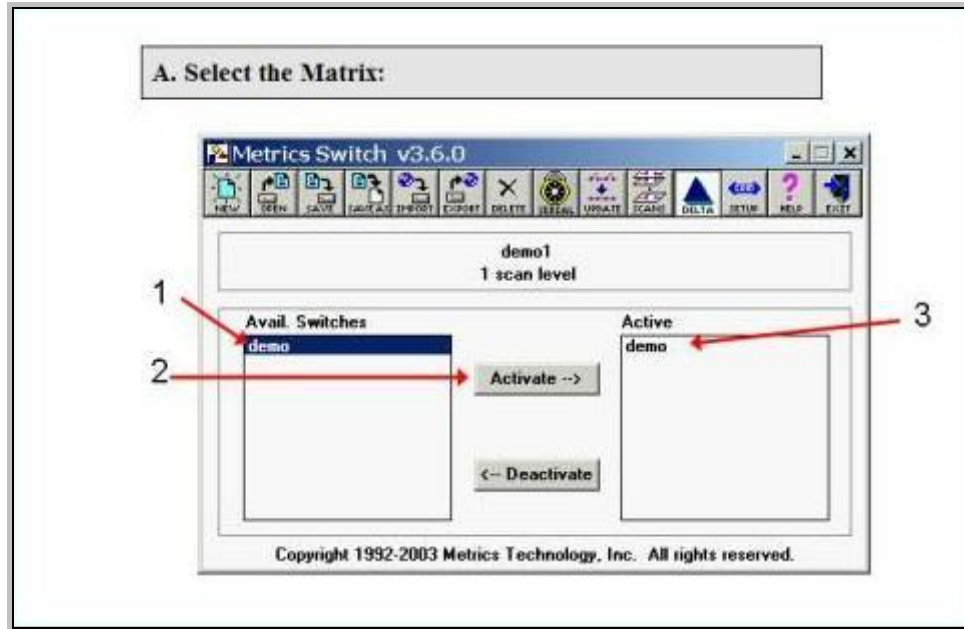

Figure 4
- 9.3.1.4 Set the **Autoprobe** switch as active (Figure 4).